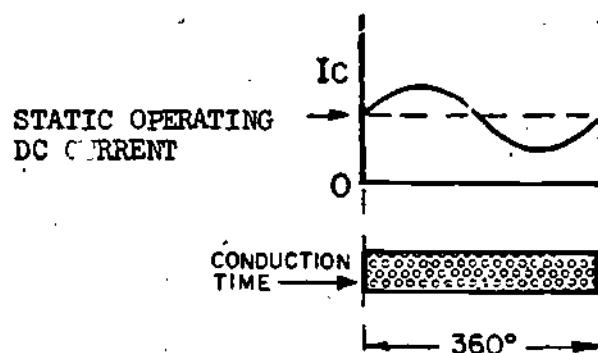

Figure 16
⑪ Some type of gain control is needed to avoid overdriving an IF amplifier. To understand how the gain of an IF amplifier may be controlled, we first must examine the effect of bias on transistor amplification. You recall that transistors require a certain amount of operating DC current to function. The amount of forward bias on the transistor's base-emitter junction (V_{BE}) affects the level of operating DC current in the transistor. As an example, Figure 16 shows the effect of forward bias on transistor operation in a Class A amplifier.
You remember that Class A amplifiers conduct even when no signal is present. This is called the transistor's static operating level, and is shown by the dotted line in Figure 16. When the transistor receives an input signal, the transistor produces a current waveform that varies about this static operating level. This waveform is shown by the sine wave in the figure. If the forward bias is changed, the static operating level of the transistor is changed.